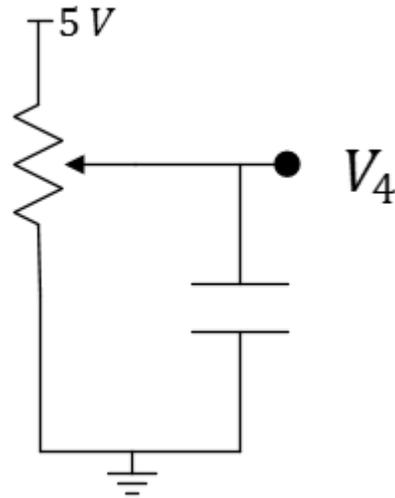

Figure 5: A voltage-divider-type sensor with filtering (the capacitor).
- ✓ Build the circuit shown in Figure 5 using a trimpot on the order of 1 to 10 kOhms. The capacitor might be chosen to be $100 \mu F$. The purpose of the capacitor is to prevent sudden changes in the voltage V_4 as the trimpot is adjusted. Because the charge and therefore the voltage across the capacitor cannot change instantaneously, the capacitor removes fast (high frequency) changes that would otherwise be present. We consider a capacitor used in this fashion a LowPass filter as it passes only lower frequency portions of waveforms.